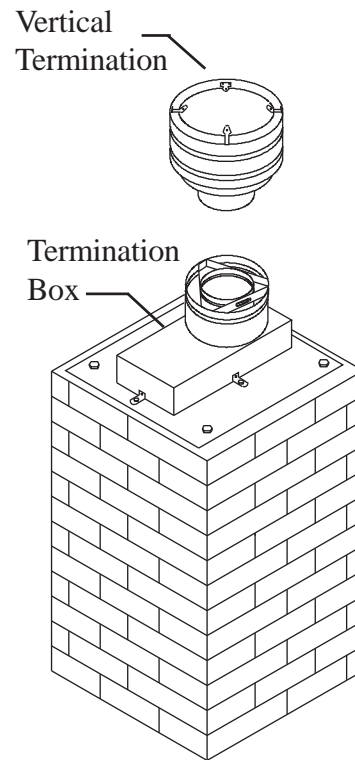

Figure 8
Step 8. Install the Vertical Termination to the Termination Box. **(Figure 8)**